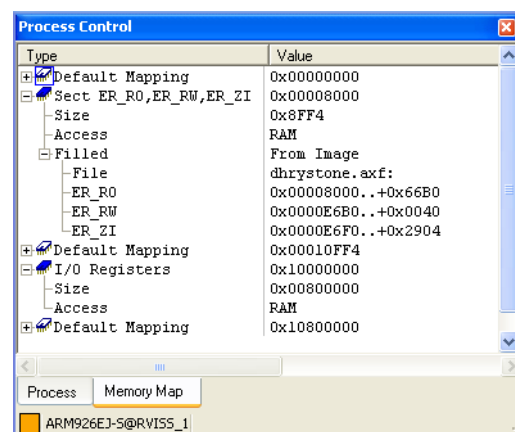

Figure 4-20 Memory map with image loaded
6. Expand the memory map entries to see the details of the loaded image. Figure 4-20 on page 4-34 shows an example: